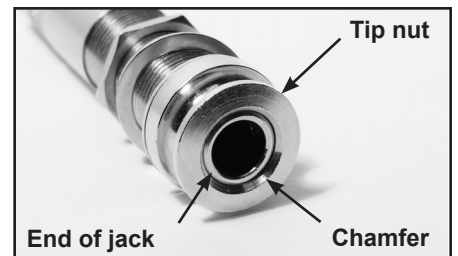

Figure 11e – Optimal alignment
5. Screw on the tip nut as tightly as you can, as there is the potential for an annoying buzz if it is not tightened properly. You can use pliers, but try not to mar the edges. If correctly installed, the end of the threaded portion of the jack should be slightly visible in the chamfer at the end of the tip nut (*see figure 11e*). Your cable plug needs to be able to make a firm connection with the jack; it should snap distinctly into place when inserted. If the threaded portion of the jack is too far inside the tip nut, the cable plug can be stopped by the tip nut before it makes a good connection with the jack. If this is the case, you will need to remove the tip nut, loosen the retaining nut, adjust the position of the inner nut so that the end of the jack barrel is very slightly farther out, retighten the retaining nut, and re-install the tip nut.